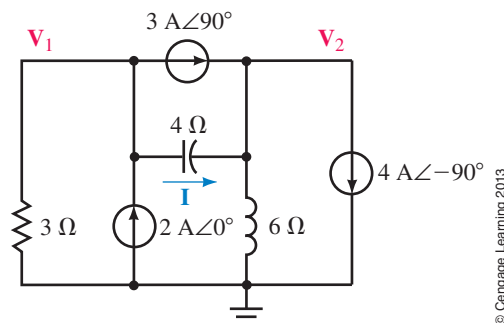

FIGURE 19–63
18. Refer to the circuit of Figure 19–64.